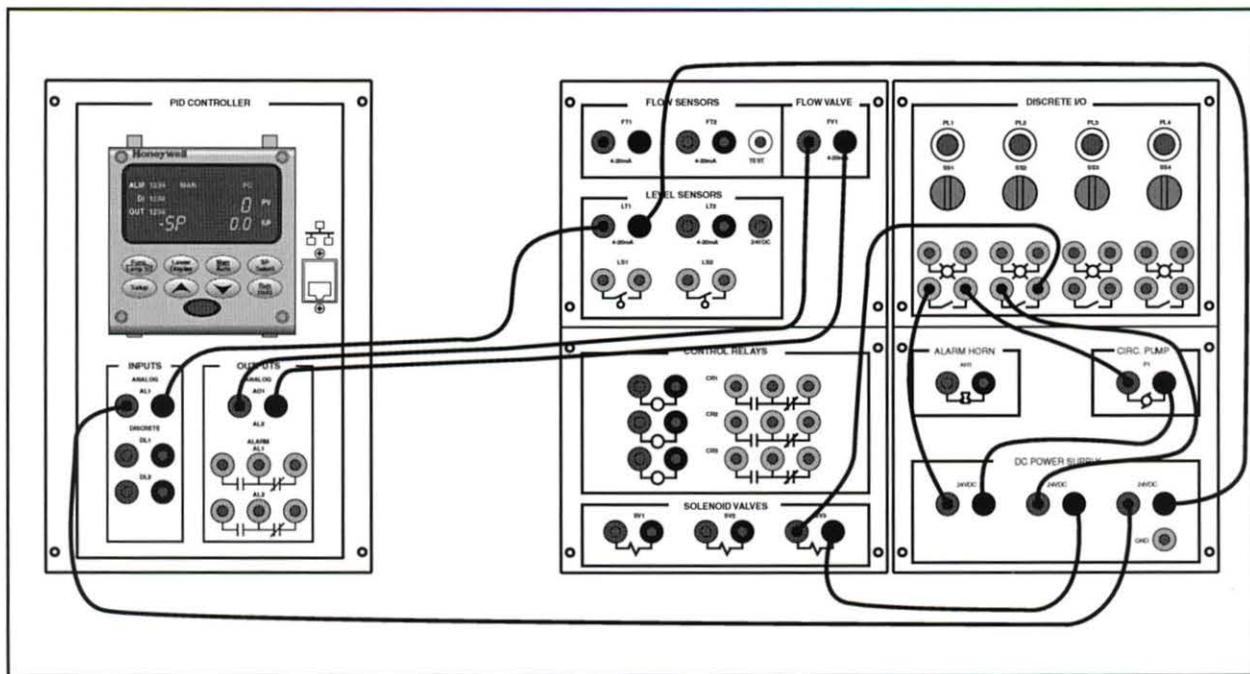

Figure 52. Connections for Closed Loop Level Control
F. Connect the circuit shown in figure 52.